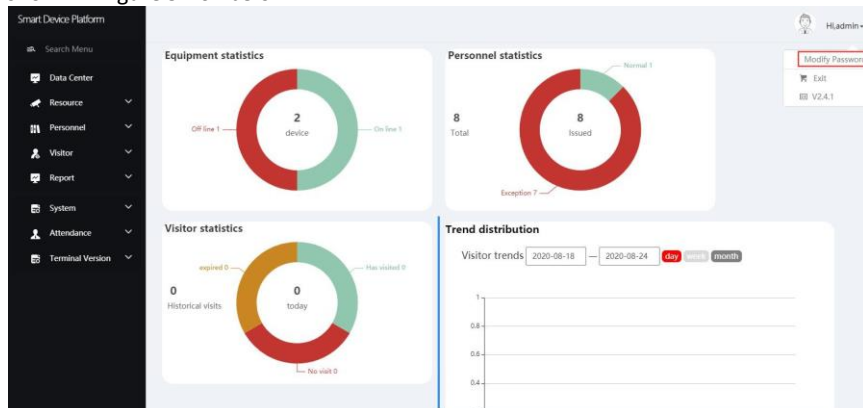

Figure 5-104
Step 1: In the smart device platform interface, click " → Modify Password", as shown in Figure 5-104 below.